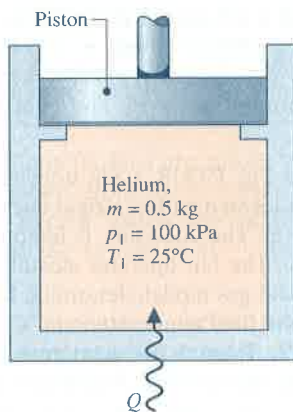

Fig. P3.124
- 3.124** As shown in Fig. P3.124, a piston–cylinder assembly whose piston is resting on a set of stops contains 0.5 kg of helium gas, initially at 100 kPa and $25^\circ C$. The mass of the piston and the effect of the atmospheric pressure acting on